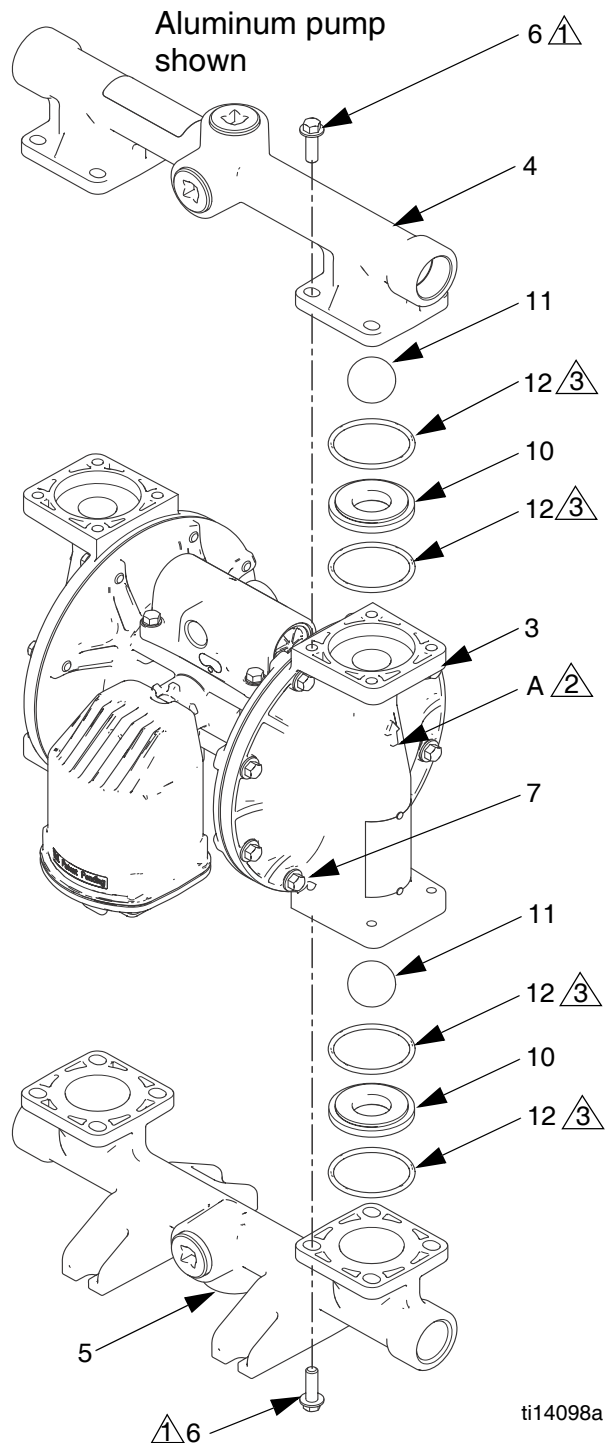

FIG. 6. Ball check valve assembly
3. Use a 10 mm socket wrench to remove the outlet manifold fasteners (6). See FIG. 6.
2. Reassemble in the reverse order, following all notes in FIG. 6. Be sure the ball checks (10-12) and manifolds (4, 5) are assembled **exactly** as shown. The arrows (A) on the fluid covers **must** point toward the outlet manifold (4).